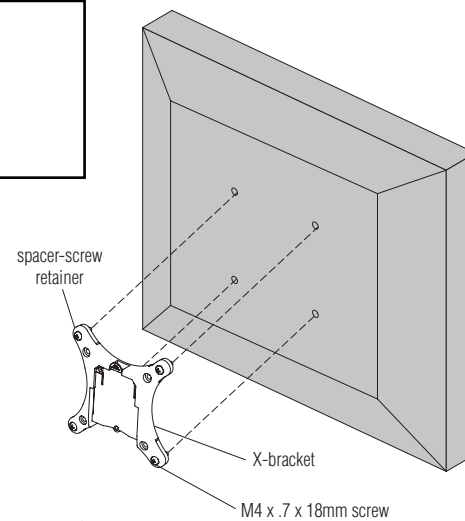

Figure 8
4. Install monitor X-bracket to rear of flat screen monitor using four M4 x .7 x 18mm mounting screws. For 100mm mounting (shown), use outer holes on X-bracket with 4 spacer-screw retainers (Figure 8 & Detail B). For 75mm mounting, use inner mounting holes on X-bracket.